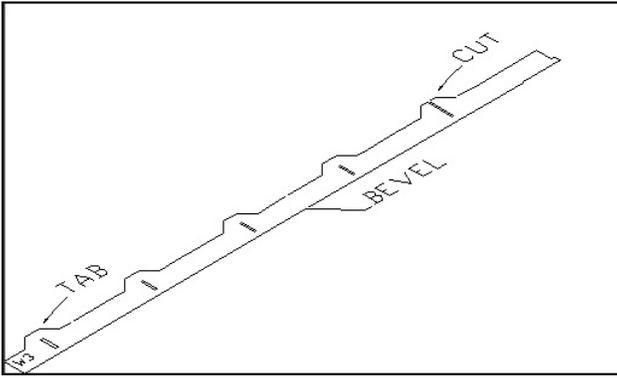

Figure 7
7. Bevel trailing edge crutch before installing. Do not cut tabs until after the trailing edge is beveled. This will keep the part from breaking during beveling process (Fig. 7). Use the provided jig to gauge bevel.